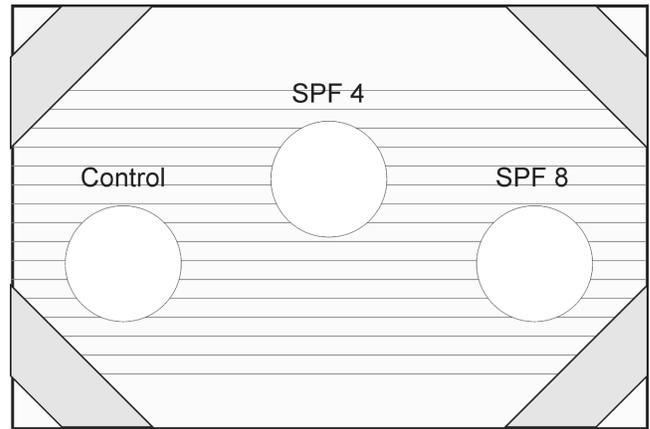

Figure 2
- b. Using a quarter as your guide, draw three circles on each test card as shown in Figure 2.
- e. Using both test cards, label the remaining five circles with the SPF values of your five assigned sunscreens. Move from left to right and begin with the lowest SPF value. Note: Your SPF values may be different from those shown in Figure 2.
- c. Tape the four corners as shown in Figure 2.